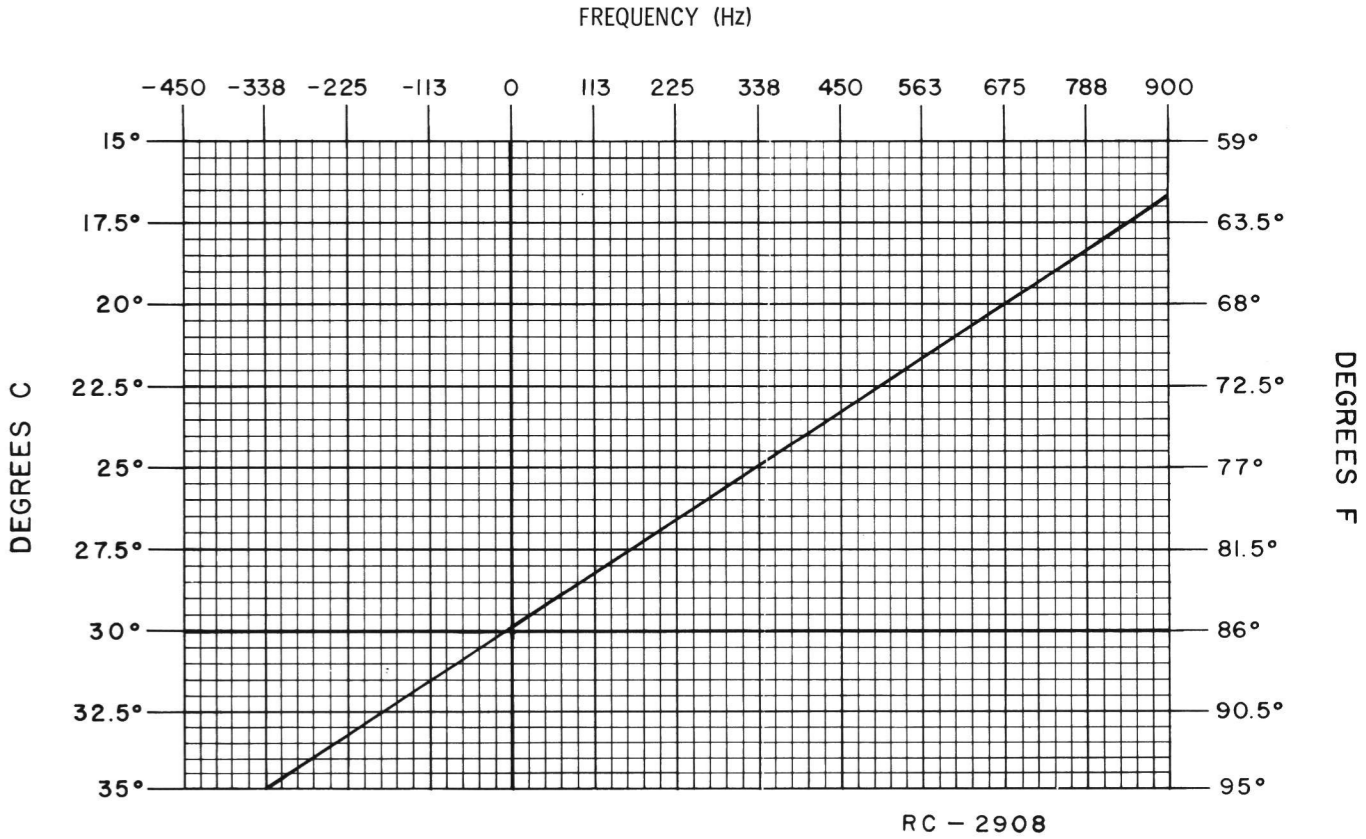

Figure 2 - Frequency Offset Chart
- 2. Maintain the radio at 30°C (+5°C, -15°C) offset the operating frequency as a function of actual temperature, by the amount shown in Figure 2.